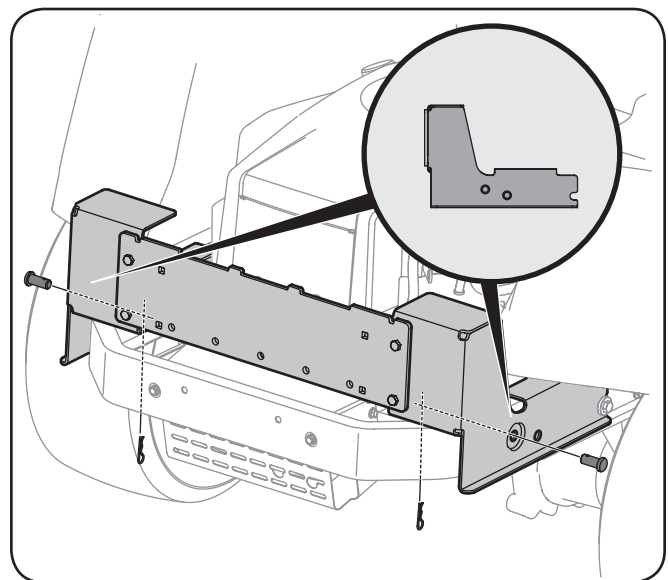

Figure 4-3
2. Secure the mounting bracket assembly to the tractor using two 911-0310 clevis pins and 914-04023 cotter pins from hardware pack 689-00320. See Figure 4-3.
NOTE: When installing this mounting bracket assembly onto the tractor, two mounting holes may be present, as shown in the inset of Figure 4-3. Insert the clevis pins in whichever of the mounting holes that line up on your specific tractor.